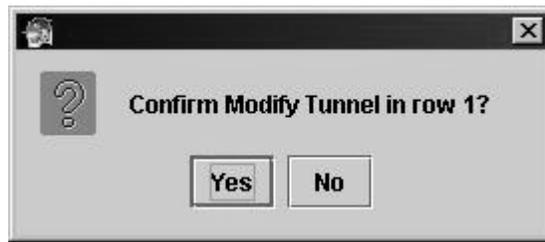

Figure 6-16: Confirm Modify Tunnel Dialog
3. Click **MODIFY**. The Select an Option dialog displays. See Figure 6-16.